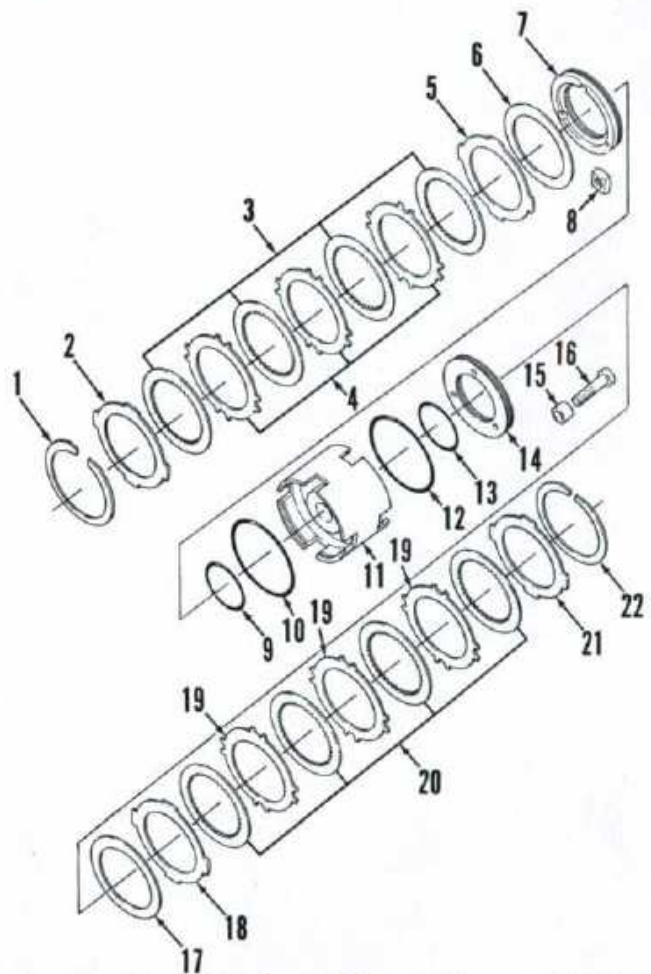

Fig. 108—Exploded view of Forward-Reverse clutches.
plates, then remove retaining ring (1—Fig. 108). Remove clutch back plate (2), friction discs (3), separator plates (4), piston back plate (5) and shim (6). Turn clutch cup (11) over and compress clutch plates, then remove retaining ring (22). Remove clutch back plate (21), friction discs (20), separator plates (19), piston back plate (18) and shim (17). Using an Allen wrench, remove bolts (16) and nuts (8). Bump clutch cup (11) on a bench and remove piston (7) and spacers (15). Turn clutch cup over and bump out piston (14). Remove "O" rings (9, 10, 12 and 13) from pistons.